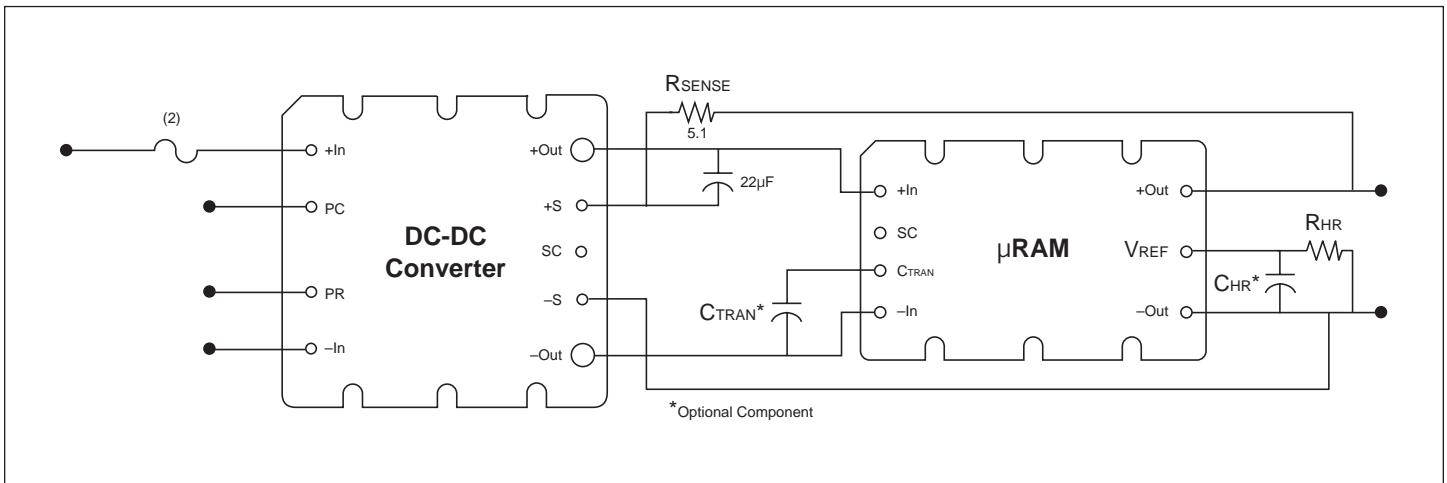

Figure 1—Typical Configuration using Remote Sensing
The MicroRAM has an internal passive filter that effectively attenuates ripple in the 50kHz to 1MHz range. An active filter provides attenuation from low frequency up to the 1MHz range. The user must set the headroom voltage of the active block with the external RHR resistor to optimize performance. The MicroRAM must be connected as shown in Figures 1 or 2 depending on the load sensing method. The transient load current performance can be increased by the addition of optional CTRAN capacitance to the CTRAN pin. The low frequency ripple attenuation can be increased by addition of optional CHR capacitance to the VREF pin as shown in Figures 3a and 3b, on p. 5.
**Figure 3a, 3b**—Curves demonstrating the small signal attenuation performance as measured on a network analyzer with a typical module at (a) 28V and 10A output and (b) 5V and 10A. The low frequency attenuation can be enhanced by connecting a 100μF capacitor, CHR, to the VREF pin as shown in Figures 1 and 2.
Figure 9—V375A28C600A and μRAM; Input and output dynamic response no added CTRAN; 20% of 20A rating load step of 4A (10A → 14A); RHR=178k (Configured as in Figs. 1 & 2)
Figure 10—V375A28C600A and μRAM; Input and output dynamic response CTRAN=820μF Electrolytic; 32.5% of load step of 6.5A (10A → 16.5A); RHR=178k (Configured as in Figs. 1 & 2)
**Figure 12**—V300B12C250A and  $\mu$ RAM; Input and output dynamic response no added CTRAN; 17.5% of 20A rating load step of 3.5A (10A  $\rightarrow$  13.5A); RHR=80k (Configured as in Figs. 1 & 2)
**Figure 13**—V300B12C250A and  $\mu$ RAM; Input and output dynamic response CTRAN=820 $\mu$ F Electrolytic; 30% of load step of 6A (10A  $\rightarrow$  16A); RHR=80k (Configured as in Figs. 1 & 2)
**Figure 15**—V48C5C100A and  $\mu$ RAM; Input and output dynamic response no added CTRAN; 22.5% of 20A rating load step of 4.5A (10A  $\rightarrow$  14.5A); RHR=31k (Configured as in Figs. 1 & 2)
**Figure 16**—V48C5C100A and  $\mu$ RAM; Input and output dynamic response CTRAN=820 $\mu$ F Electrolytic; 35% of load step of 7A (10A  $\rightarrow$  17A); RHR=31k (Configured as in Figs. 1 & 2)